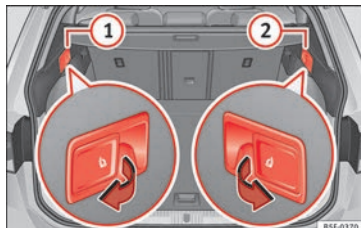

Fig. 152 In the luggage compartment: levers for remote release of the left part (1) and right part (2) of the rear seat backrest.
- Pull the remote release lever of the left part »» Fig. 152 (1) or right part (2) of the backrest in the direction of the arrow. The released part of the rear seat backrest is folded automatically down and forwards.